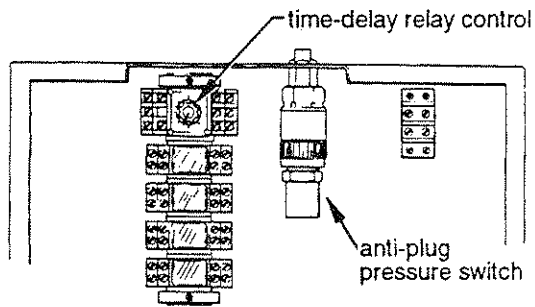

Fig. 52 Preset time-delay control to "2"
16. **PRESET TIME-DELAY RELAY TO "2"** Preset the control box time-delay relay control (fig. 52) to "2" (approximately 3.5 seconds delay). (The "2" setting has a good chance of being the final installation setting.)